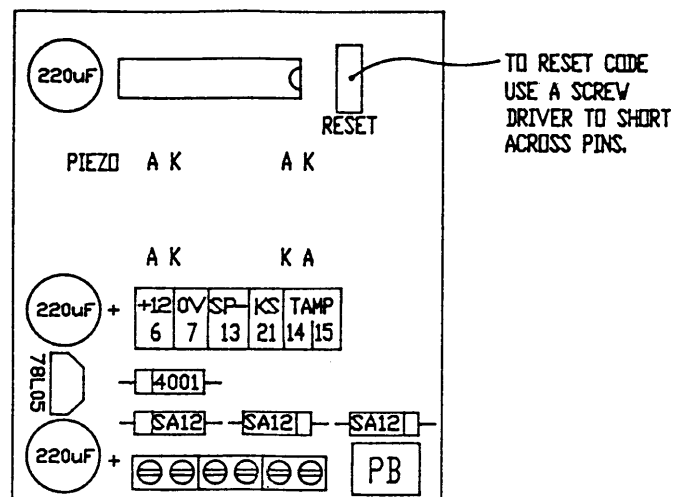

FIG. 3
3. Using a small screw driver, short across the re-set pins on the back of the p.c.b (see fig 3). This will return the remote keypad back to (O).